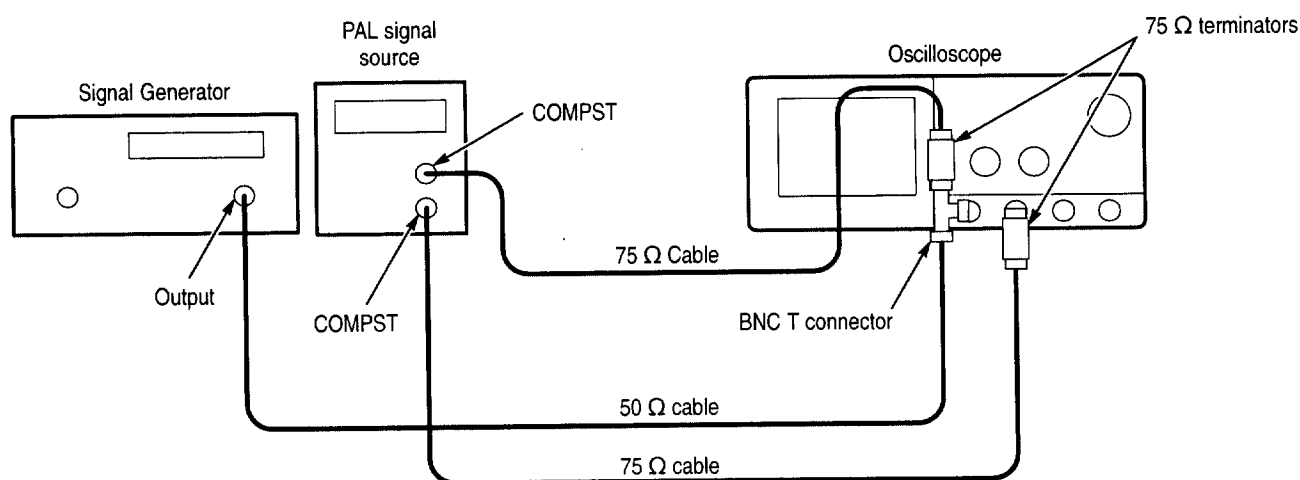

Figure 1–34: Subsequent 60 Hz Rejection test hookup
- Connect another composite signal connector of the PAL signal source (labeled **COMPST** on the TSG 121) through a 75 Ω cable and a 75 Ω terminator to the CH2 input. See Figure 1–34.
- CONFIRM that the **TRIG'D** LED stays lighted and that the waveform on screen is stable. In other words, be sure the waveform does not move horizontally or vertically. Also, confirm that the waveform on the screen has one positive pulse and a number of negative pulses. See Figure 1–35.